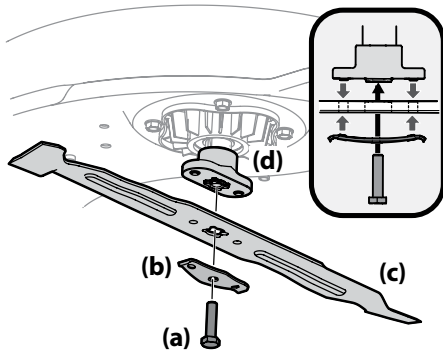

Figure 4-8
3. Remove the hex screw (a) and the blade bell support (b) which holds the blade (c) and the blade adapter (d) to the deck motor. See Figure 4-8.
4. Remove blade (c) and adapter (d) from the deck motor spindle. See Figure 4-8.